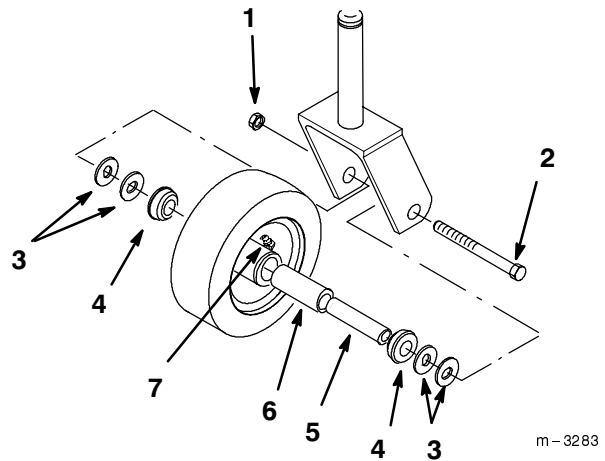

Figure 38
1. Remove the locknut and wheel bolt holding the castor wheel to the castor fork (Fig. 38).
2. Remove the washer and bushing, then pull the spanner bushing and roller bearing out of the wheel hub (Fig. 38).
3. Remove the other bushing from the wheel hub and clean any grease and dirt from the wheel hub (Fig. 38).
4. Inspect the roller bearing, bushings, spanner bushing and inside of the wheel hub for wear. Replace any defective or worn parts (Fig. 38).
5. To assemble, place one (1) bushing into the wheel hub. Grease the roller bearing and spanner bushing and slide them into the wheel hub. Place the second bushing into the wheel hub (Fig. 38).
6. Install the castor wheel into the castor fork and secure with the wheel bolt and locknut. Tighten the locknut until the spanner bushing bottoms against the inside of the castor forks (Fig. 38).